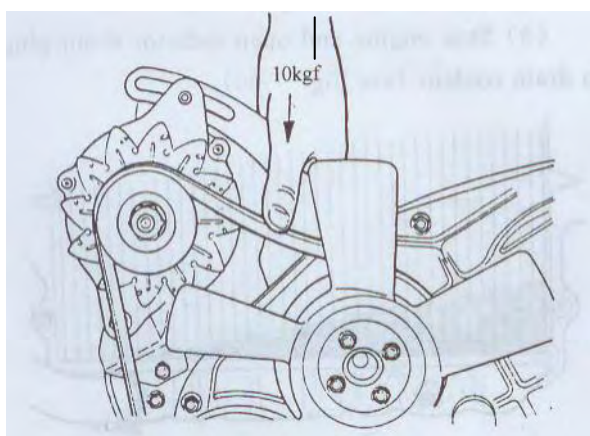

FIG.6-24 (see fig.7-28 of service manual for HFJ6351B)
- (1) Check belt for crack, deformation, wear and cleanness, the belt is in proper tension when a thumb pressure(10kg) applied to the middle point between water pump pulley and crankshaft pulley deflects it 10~15mm. (FIG.6-24)。